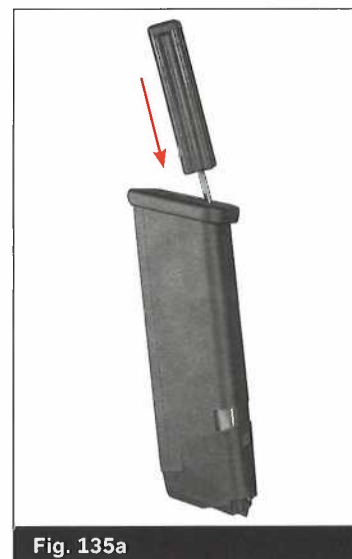

Fig. 135a
- Insert the pin punch fully into the opening in the floorplate and push the magazine insert down into the magazine tube to unlock the magazine floor plate (Fig. 135a).